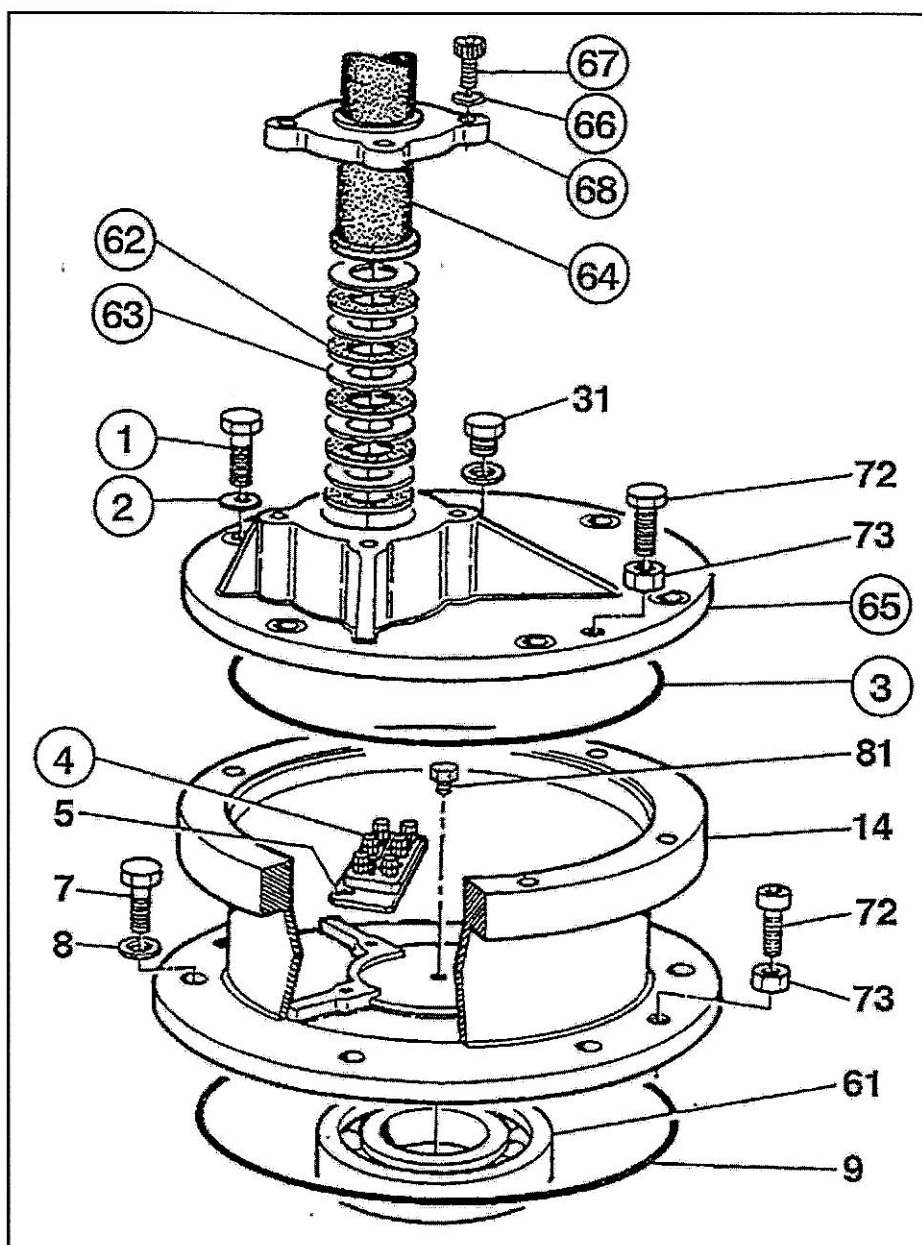

Fig. 6
3) If the electric cable has not been requested proceed as follow (Fig. 6) pag. 7: